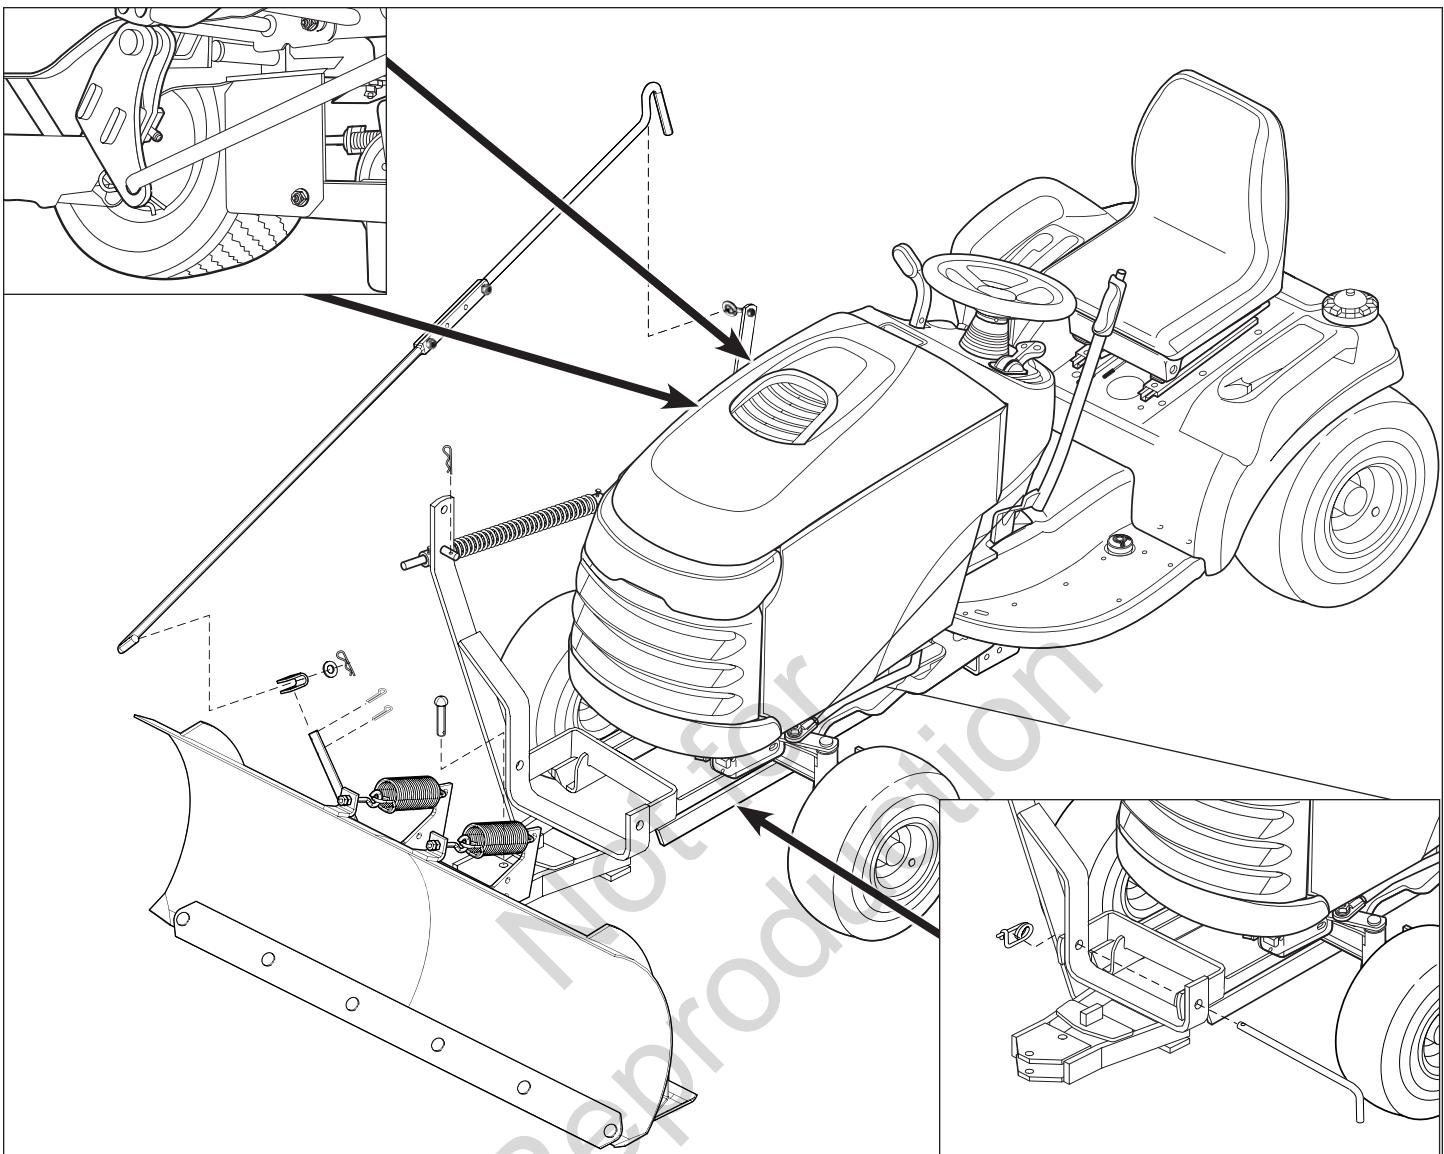

Figure 33
2. Remove the hair pin clip and washer (Figure 33) securing the angling control rod to the clevis. Disconnect the angling control rod.
6. Remove the hitch pin and safety clip (E) securing the pivot hitch (F) to the sub-frame hitch. Remove the pivot hitch.